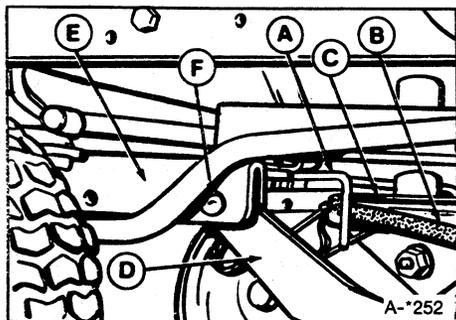
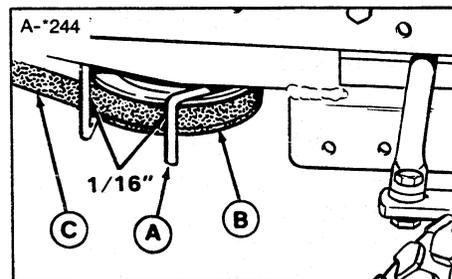

Figure 3. L.H. Belt Stop
Figure 5. Right-Hand Belt Stop - 42" Mowers
8. Lift up front of mower and insert pins (F, figure 3) to attach mower hitch arms to tractor hitch (E). (You can insert a pry bar under front edge of deck to raise.)
10. Slip the mower drive belt onto the engine PTO pulley loosening belt stops as necessary. The left-hand belt stop is shown in figure 3. The right-hand belt stop for 42" mowers is shown in figure 5. Position belt stops 1/16" from belt.